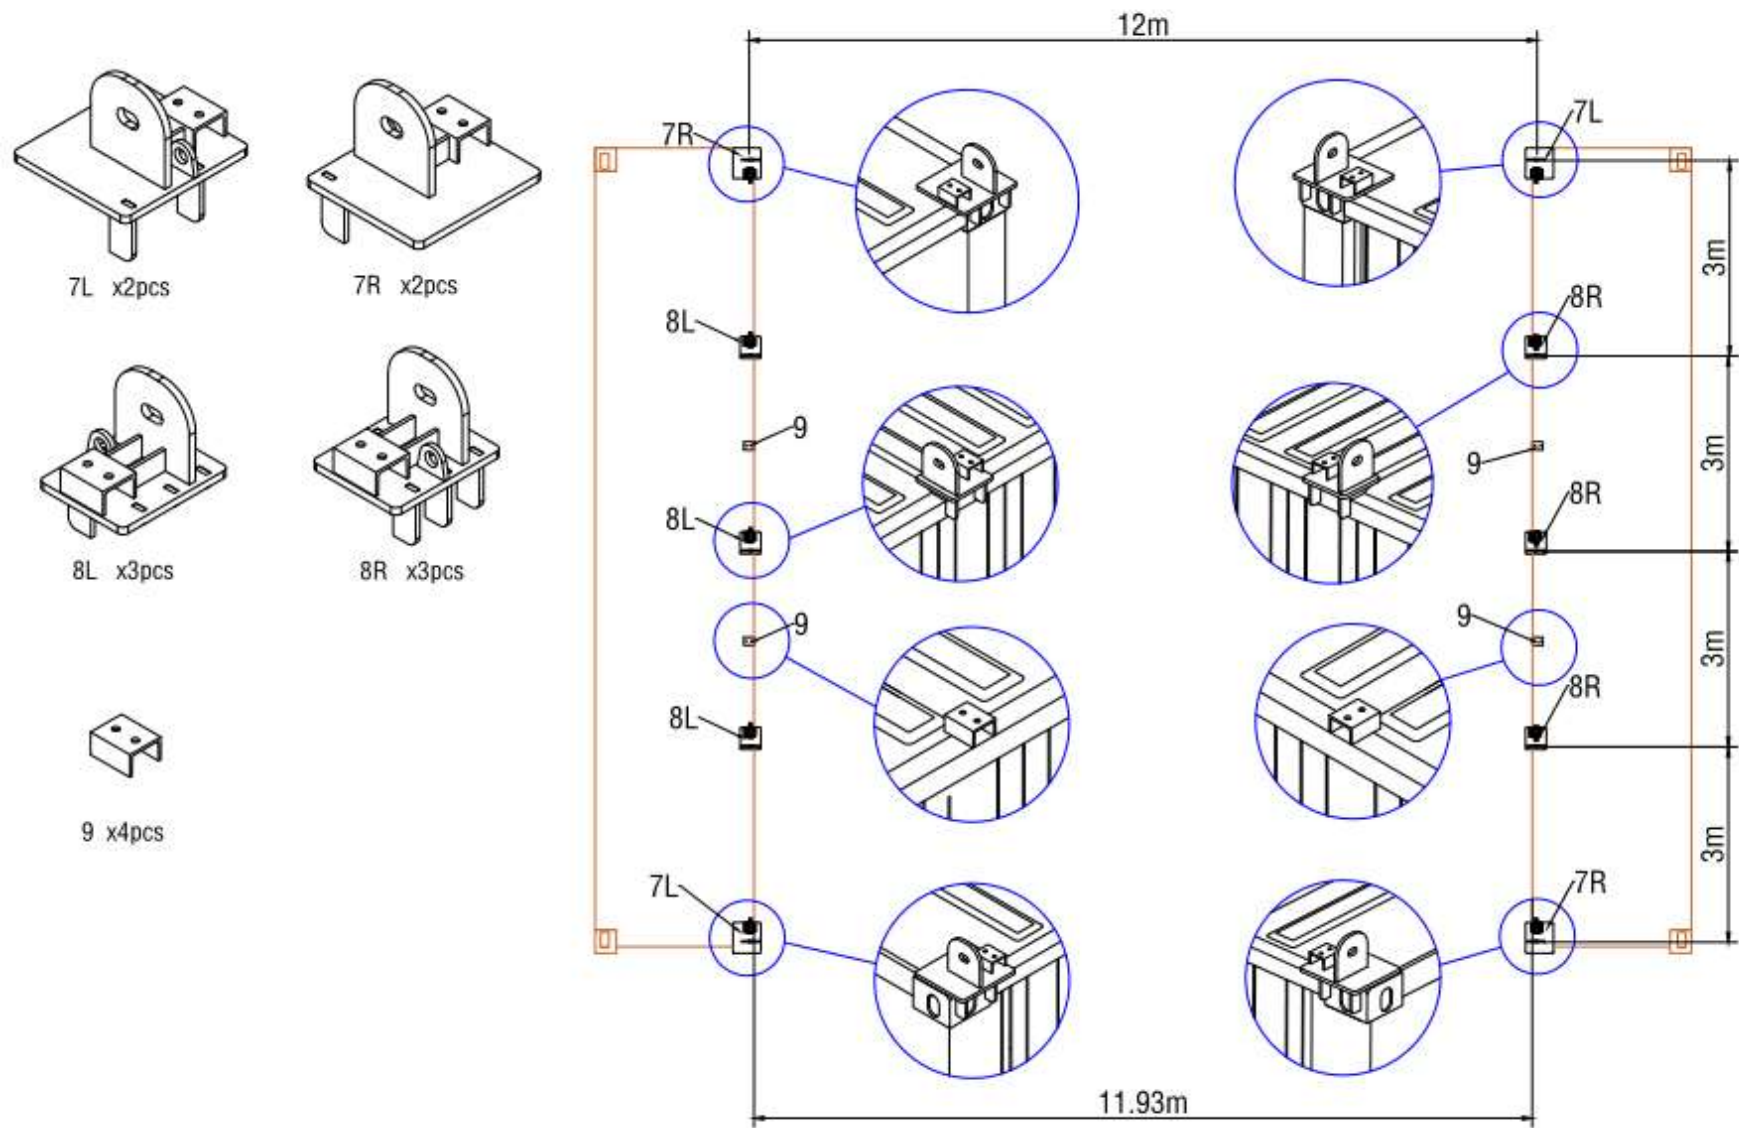

Figure 1
B.**Measure diagonally from centre to centre of the tubes.** These measurements should be the same as below Figure 1 shows. **Base plates (7R/7L/8R/8L) must be fully welded inside and outside. Part no.9 doesn't need to be welded in advance. The welding position can be determined according to the strap position of the roof cover when the roof cover is installed.**